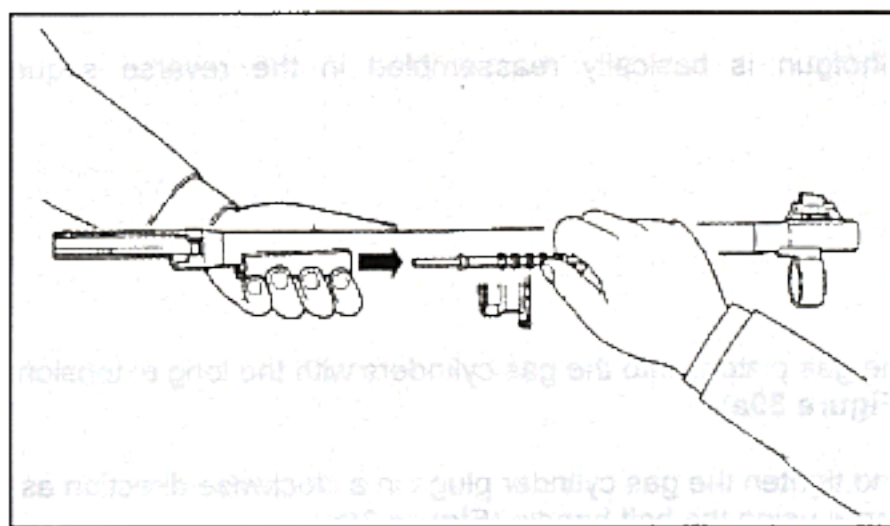

Figure 30. Removing the gas piston from the gas cylinder
- B. Remove the gas pistons from the front end of the gas cylinders (Figure 30).